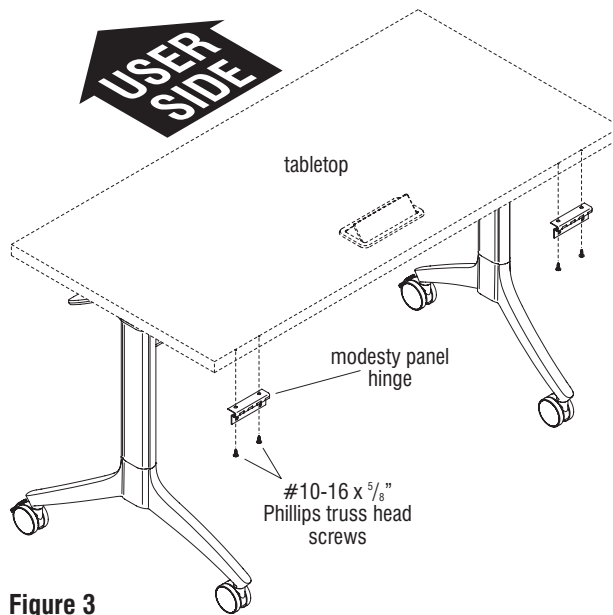

Figure 3
1. Position one modesty panel hinge underneath the back, non-user side of the tabletop at the pre-drilled location, making sure the user side of the hinge is facing the user side of the table (Figure 3 & Detail D). If modesty panel hinges are not oriented correctly, the modesty panel will not nest properly when the tabletop is in the nesting position and disassembly and reassembly will be required. Align the mounting holes of the hinge with the pre-drilled holes underneath the tabletop and secure using two #10-16 x 5/8" Phillips screws. Repeat this process to secure the remaining hinges to the table (Figure 3 & Detail E).